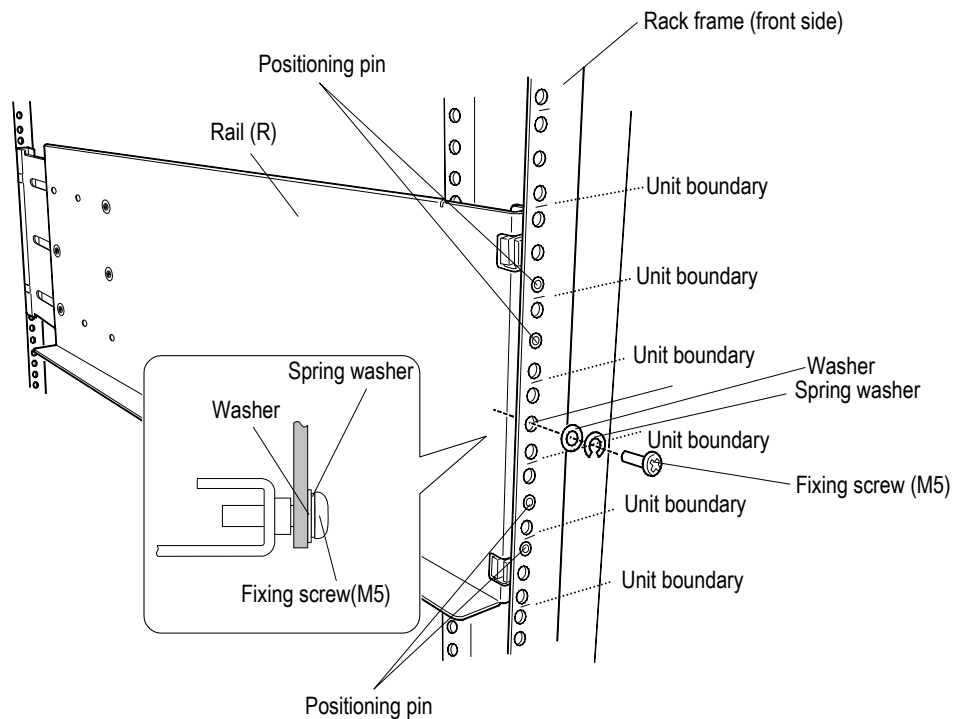

Figure 2.2.34 Installing Rack Rails for Drive Box (5U) in the Front Side
- (b) Fit the positioning pins for the rail (R) in the holes in the position to be installed on the right side of rack frame (four places in the front and rear). (See Figure 2.2.34.)